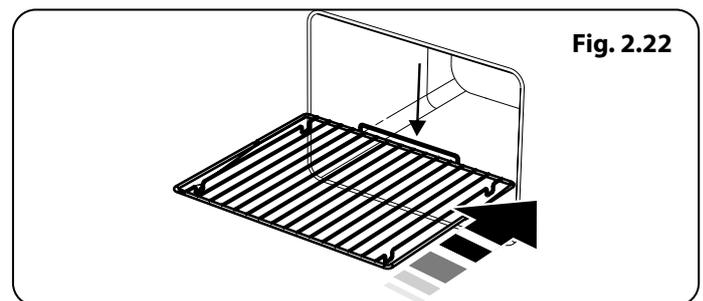

Fig. 2.22
**⚠ WARNING Place the grid to any corresponding rack in the oven cavity correctly and push it to the end (Fig. 2.22).**